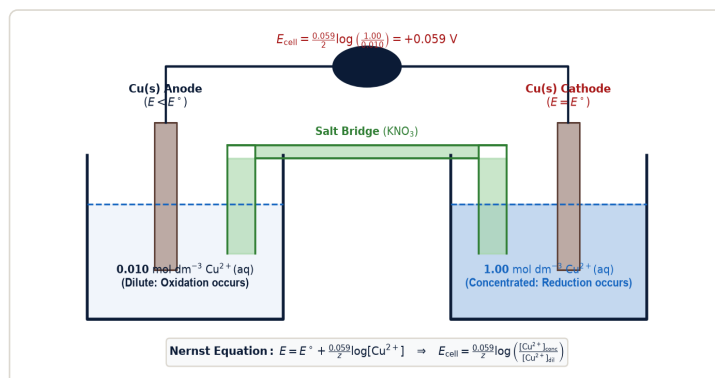

Fig. 10.1: Copper concentration cell driven by the concentration gradient between half-cells.
A concentration cell is constructed using two copper electrodes immersed in copper(II) sulfate solutions of different concentrations, as shown in Fig. 10.1.